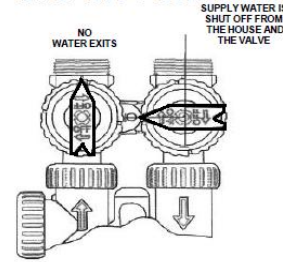

Figure 5 - Shut Off
4. **Shut Off Position:** The inlet handle points to the center of the bypass valve and the outlet handle points away from the control valve. The water is shut off to the building. The water treatment system will depressurize upon opening a tap in the building. A negative pressure in the building combined with the softener being in regeneration could cause a siphoning of brine into the building. If water is available on the outlet side of the softener it is an indication of water bypassing the system (**Fig. 5**)